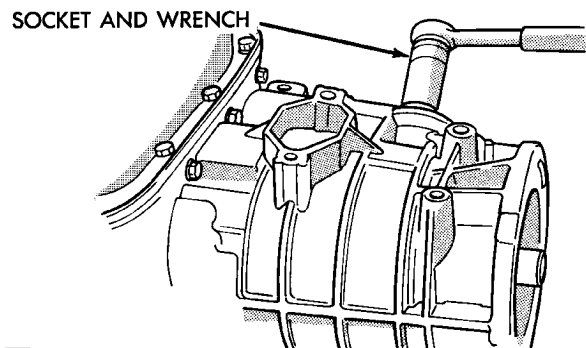

Fig. 185 Transmission Speed Sensor Removal/Installation
(1) Remove transmission speed sensor and O-ring seal from overdrive case (Fig. 185).